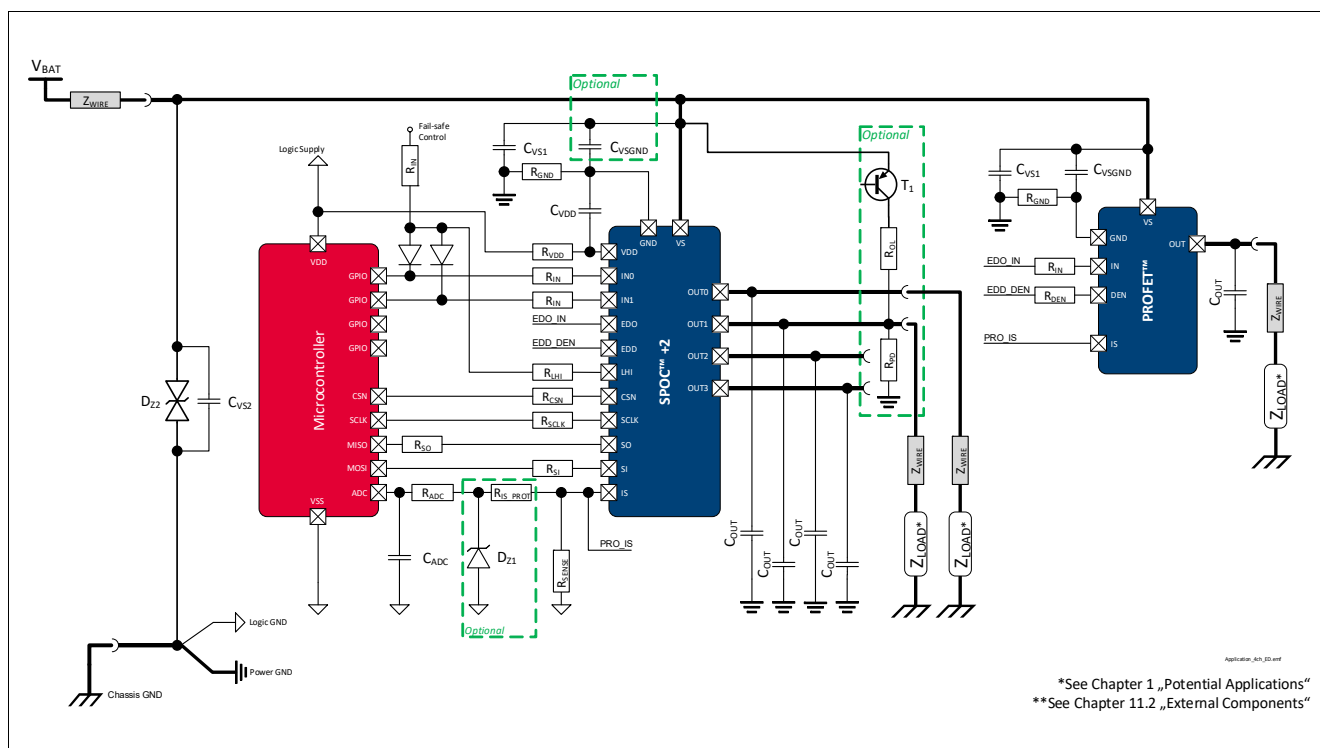

Figure 46 Application Diagram
1.10 , 2021-03-23	General: Datasheet quality improved General: updated (ReverSave™ → ReverseON) General: updated (channel description) Icon “PRO-SIL™ ISO 26262-ready” added to front page Chapter 1 updated (Potential Applications updated and Product Validation added) Harmonization of Application Diagram (Figure 1, Figure 46) P_4.4.0.17, P_4.4.0.18 updated (Typ. value and Max. value) P_6.4.0.10 updated (Note or Test Condition) P_6.4.1.5 updated (Note or Test Condition) P_6.4.1.7 removed P_6.5.32.2 added P_9.6.0.6 updated parameter name P_9.6.0.17 added Figure 28 and Figure 29 updated Figure 33 updated Figure 37 and Figure 38 updated Chapter 10.4 typical value for VDD harmonized Chapter 11 updated (figures and descriptions)